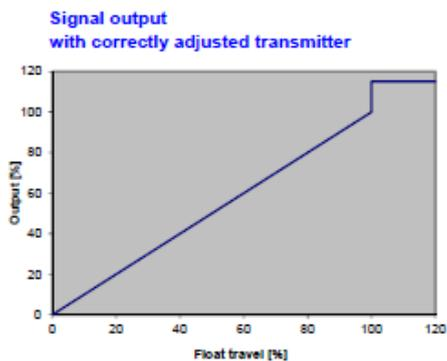

Figure 2
If the float rises above the transmitter's measuring range (M el.), the value of the electrical signal output will jump to 115% of the total measuring range. This over-limit value of the signal will remain constant for any level above the total measuring range (M el.). See figure 2.
This bi-stabile reed switch closes when the south pole of the float's magnet reaches the high-limit level and remains closed while the float is at any level above this limit. It opens again when the float drops below this limit again. See figure 2.
- As a result the level transmitter will give the correct output signal. See Figure 2.